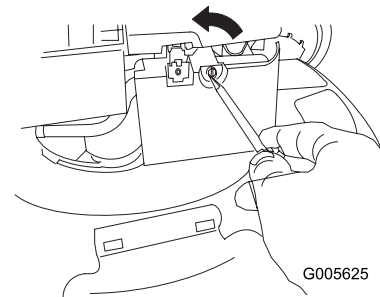

Figure 29
- Use a screw driver to open the air filter cover (Figure 29).